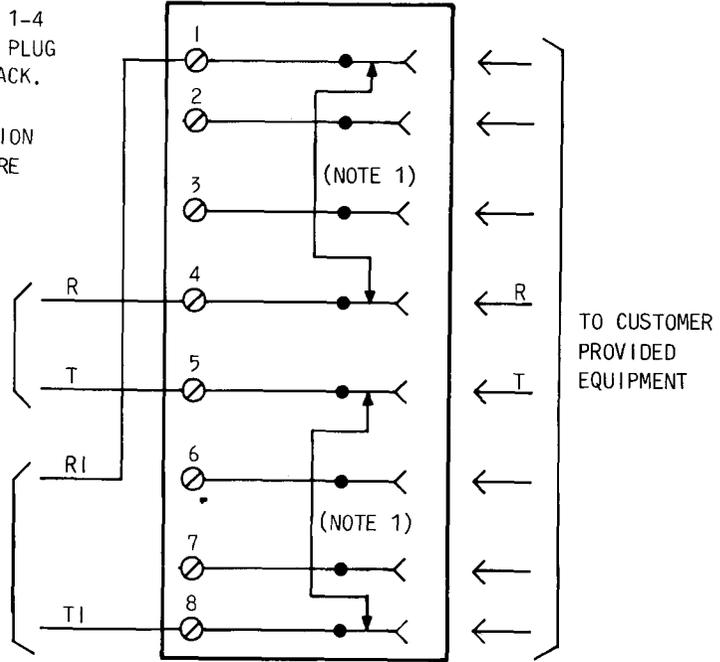

Fig. 2—Connections for USOC RJ32X
2.02 USOC RJ32X: This arrangement (Fig. 2) also provides a series tip and ring connection through the 635A connecting block but is used where the CPE is connected in series with a single station, such as an automatic dialer.